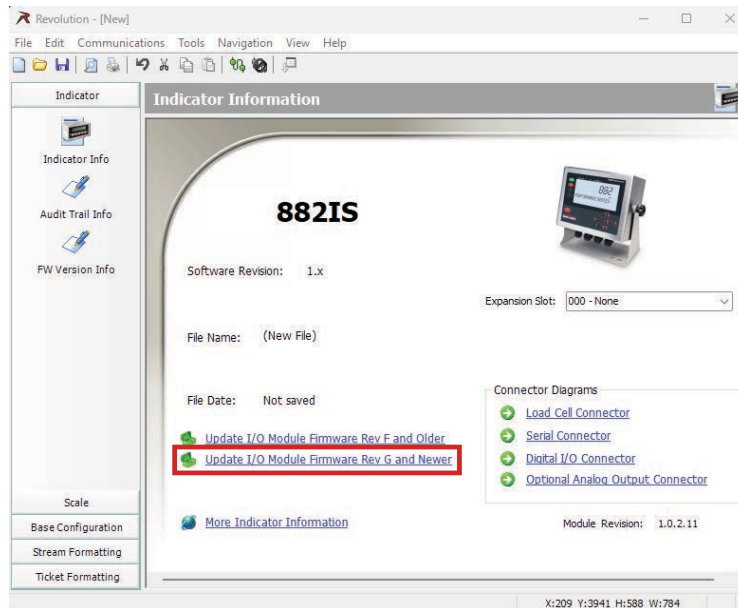

Figure 3-1. Indicator Information Page
11. On the Indicator Information page, select **Update I/O Module Firmware Rev G and Newer** (see Figure 3-1).